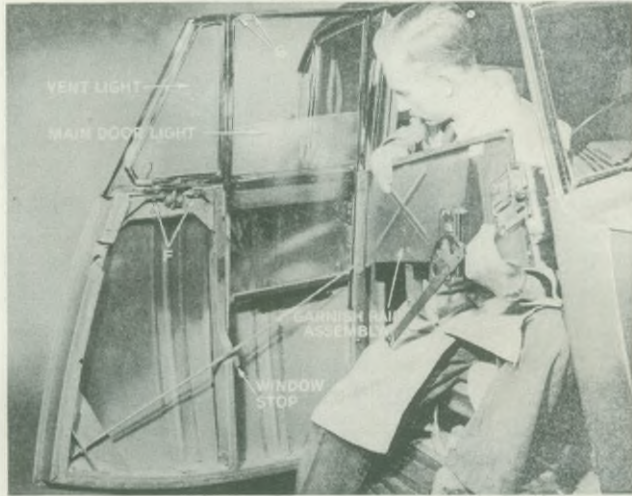

Fig. 19. Garnish rail assembly removed showing its top channel which hooks over the tops of the two door side frames
6. Remove window stop (shown in Fig. 19) and drop main window down as far as it will go, to position shown in Fig. 20. Peel out felt from front vertical glass channel (as
shown in Fig. 20) and remove the six counter-sunk headed screws retaining front vent light frame shown positioned at 'E'. Remove remaining four screws retaining vent light positioned at 'F' and 'G' in Fig. 19 and ease out vent light frame as shown in Fig. 20.
N.B. The vent light and main light frame can be removed as one unit if required by releasing all screws mentioned above, except the six shown at 'E' on Fig. 20 and two at 'G' on Fig. 19.